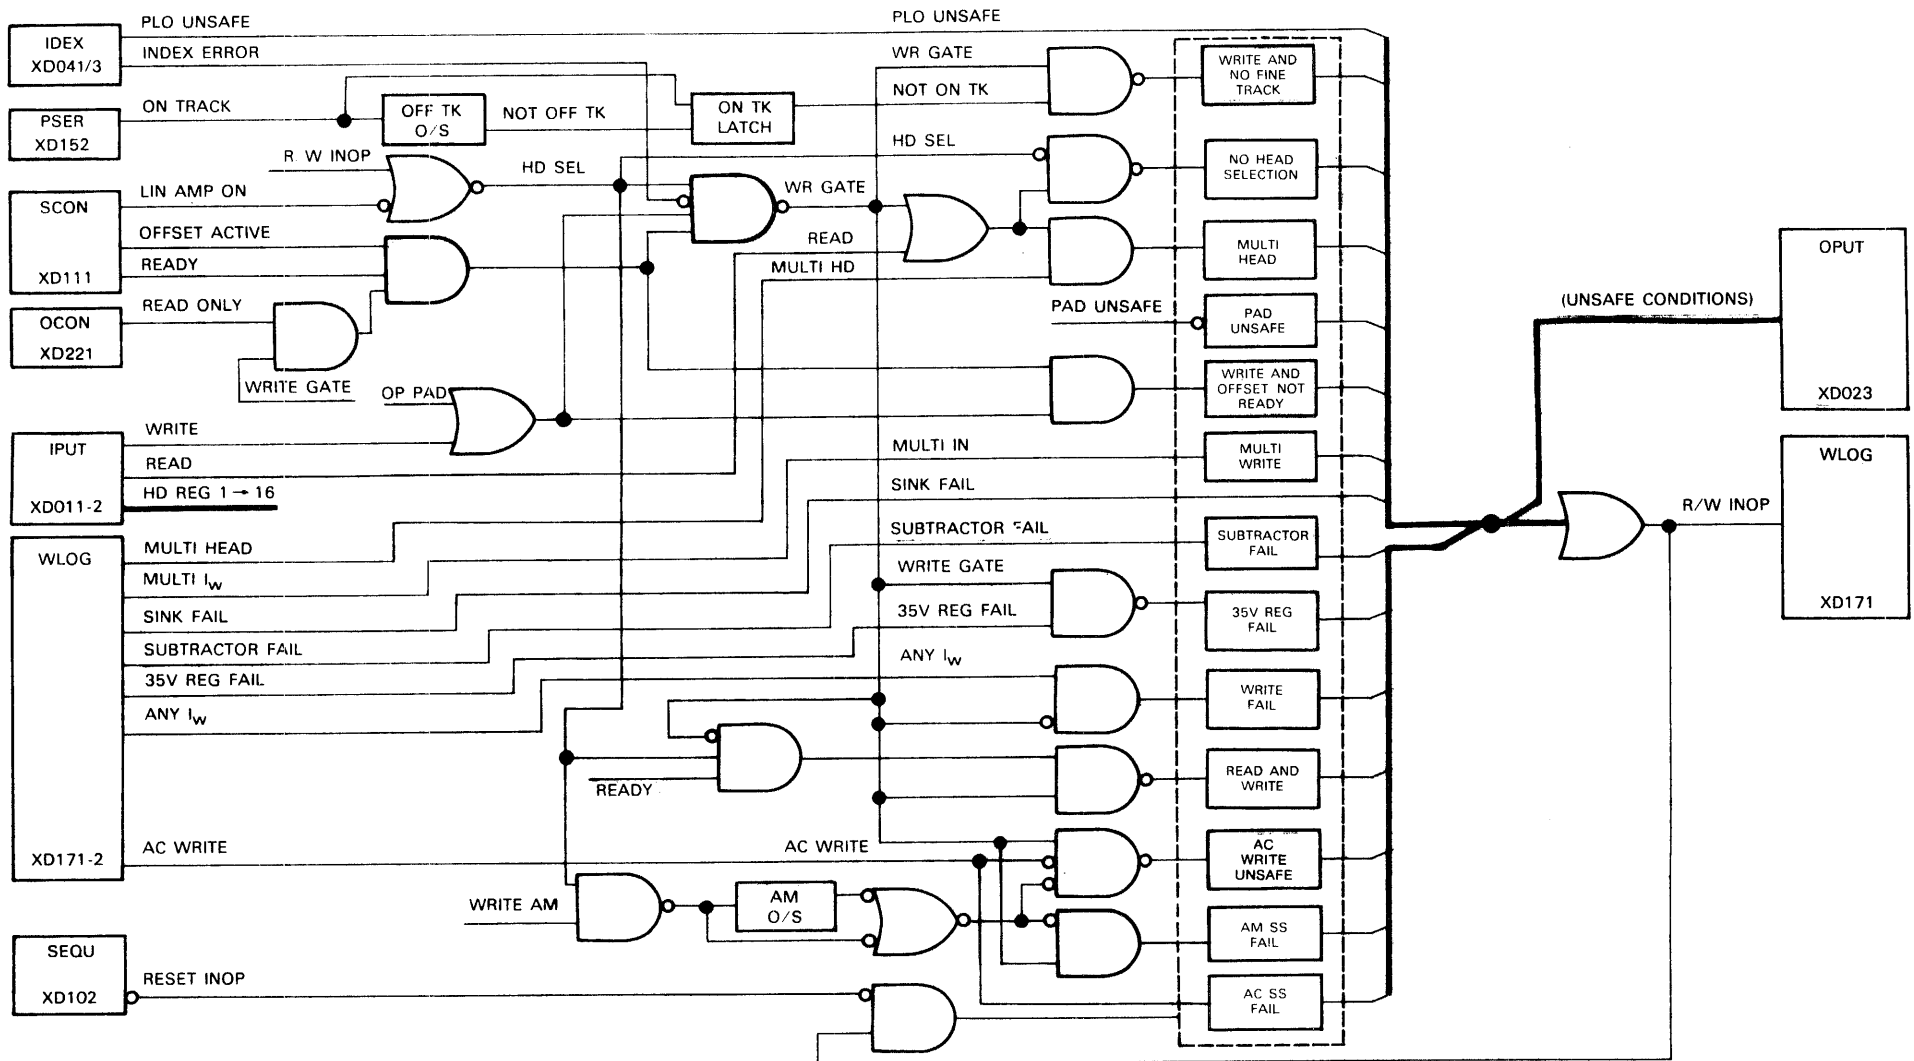

FIGURE 3-63. DATA SAFETY AND HEAD SELECT PCB (Part 1 of 2)
3.5.3.2 Activating Head Select Line (Figure 3-63, Part 2 of 2)
DSHS determines which one of two read select circuits (in Left MTRX and Right MTRX) is to be activated. Its decision is controlled by the Head Select 1 (HD REG 1). Referring to part 2 of Figure 3-63, this bit being false causes selection of the right matrix (READ RIGHT is true), provided write gate is not active, drive is ready, no unsafe condition exists, and the LIN AMP ON is true. The bit being true causes selection of the left matrix (READ LEFT is true), provided the same conditions are satisfied.
DSHS suppresses automatic gain control of the linear amp to allow recovering a read capability for 7 μ sec after the read channel is enabled. As indicated in part 2 of Figure 3-63, this action is caused by Squelch Single Shot generating AGC SQUELCH true which is sent to the linear amp.